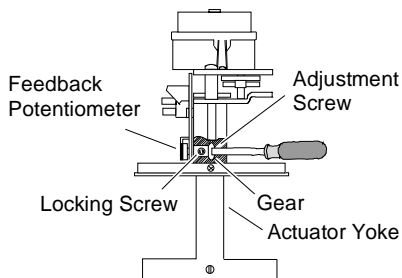

Figure 12: VA-7203 Feedback
3. If resistance is greater than 100 ohms, loosen the locking screw (accessible through the access hole in the actuator yoke in Figure 12).